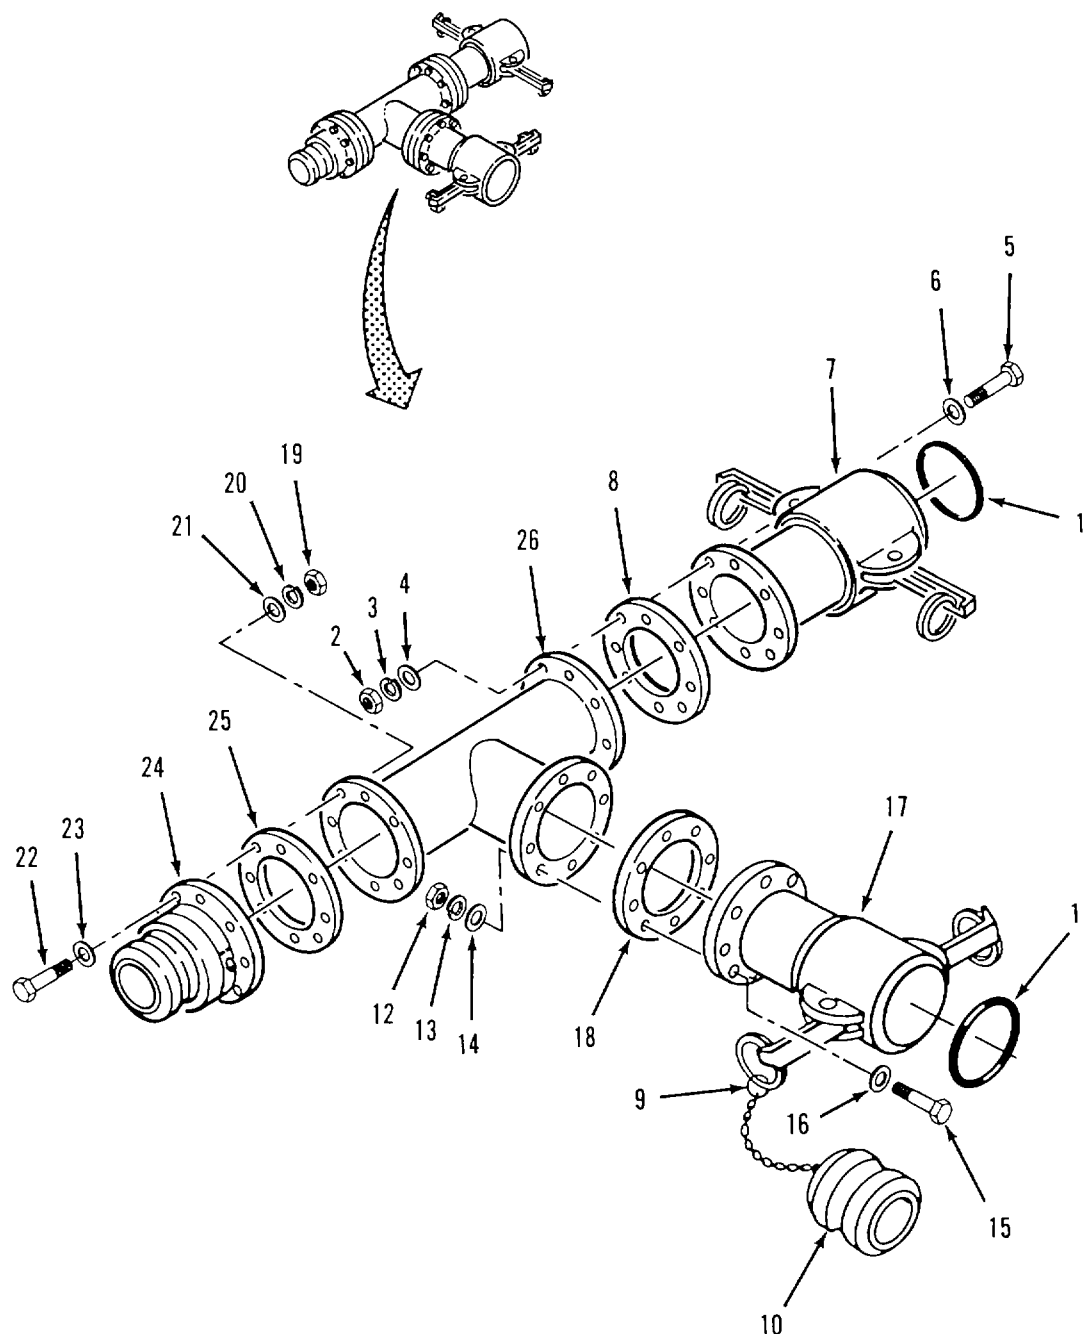

Figure 4-23. Tee Assembly (9112-Y3) Disassembly
a. Disassembly. Refer to figure 4-23.
- (1) Remove gasket (1) from female coupling (7).
- (2) Remove eight nuts (2), lockwashers (3), flat washers (4) and screws (5) and flat washers (6).
- (3) Separate female coupling (7) and gasket (8) from tee (26).
- (4) Disconnect ring (9) from female coupling (17) and remove plug (10).
- (5) Remove gasket (11) from female coupling (17).
- (6) Remove eight nuts (12), lockwashers (13), flat washers (14), screws (15) and flat washers (16).
- (7) Separate female coupling (17) and gasket (18) from tee (26).
- (8) Remove eight nuts (19), lockwashers (20), flat washers (21), screws (22) and flat washers (23).
- (9) Separate male coupling (24) and gasket (25) from tee (26).